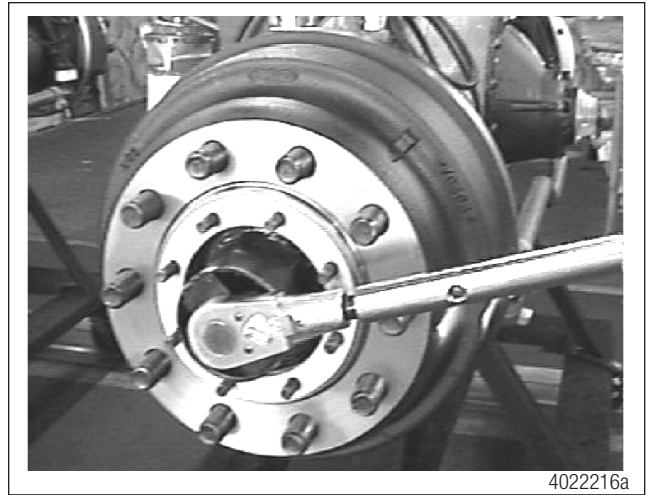

Figure 27
5. Tighten the bearing adjusting nut to 50 lb-ft (68 Nm) while simultaneously rotating the hub assembly. Loosen the nut and repeat this procedure 2-3 times to ensure that the bearings are seated properly. After the final tightening, back off the nut 1/4 turn. Figure 27.